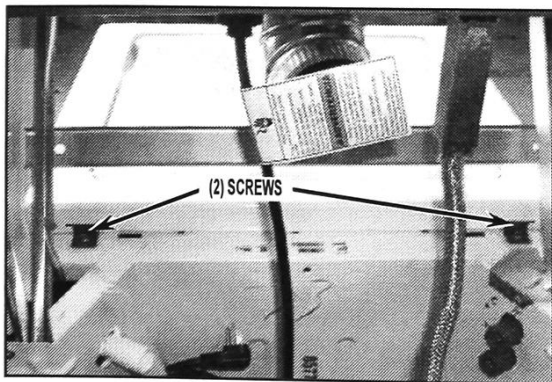

FIGURE 2
4. Remove the top and lid assembly by removing the two (2) screws at the rear of the washer top assembly. See Figure 2.